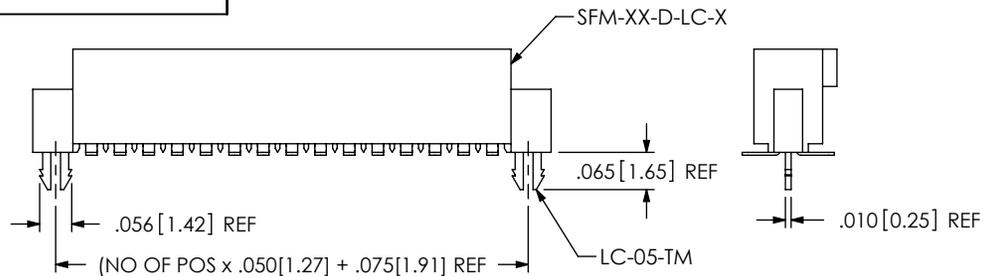

FIG 6
-LC: LOCKING CLIP (SEE FIG. 6, SHT. 3 & NOTE 8) (AVAILABLE ON ALL LEADS)